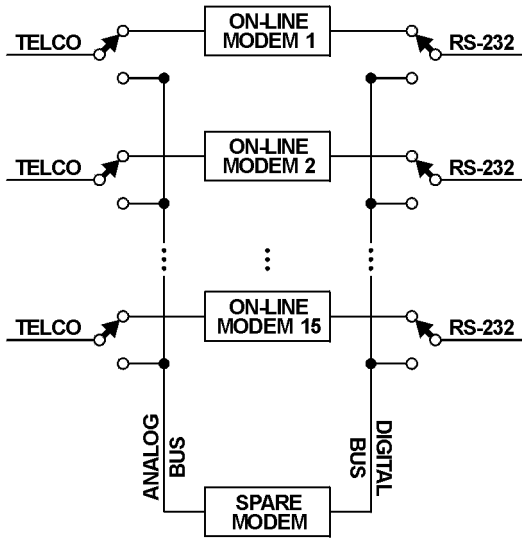

Figure 2-8. Dialup Connection.
2. Dialup modem connection between the PC and a site (see Figure 2-8). The connection is established when needed.